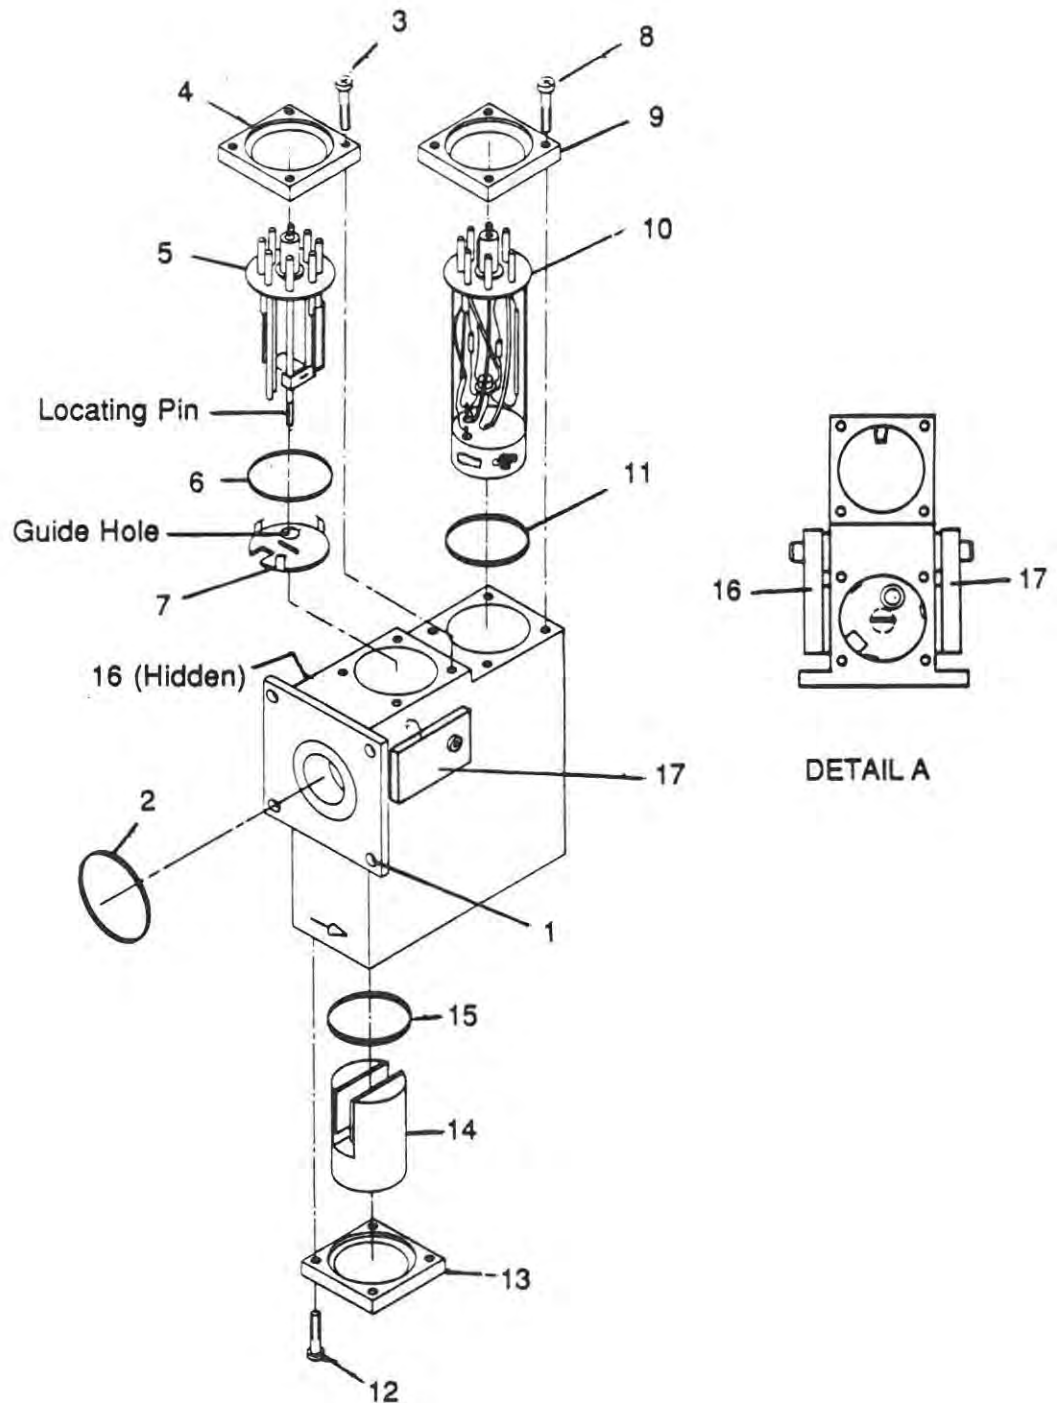

Figure 5-3. Spectrometer Tube Exploded View.
- 3 Place the locating pin of the new ion source approximately in the center of the guide hole as shown in Figure 5-3.
- 5 Remove the Allen screws (1, Figure 5-3) from the spectrometer tube flange.
- 6 Rock the spectrometer tube gently to break its vacuum. Look for and carefully remove the O-ring (2) under the flange. Note the position of the grounding strap.
- 8 Remove the four Phillips head screws (3) that hold the flange cap (4) onto the ion source (5).
- 9 Firmly but gently separate the flange cap (4) from the ion source (5). Note the O-ring (6) on the ion source; remove and discard both the O-ring and the ion source (Varian part no. 82850-302).
### 5-3-7 Assembly of the Spectrometer Tube (Refer to Figure 5-3)
- 1 Install a new ground slit plate (7) carefully. Be sure that the snapprops fit snugly and are facing up. Using a long, thin screwdriver, align the slit at 90° with the side wall of the spectrometer tube. Concentrically align the circular hole in the plate with the smaller guide hole in the bottom of the ion source cavity (see Detail A, Figure 5-3).
- 2 Wipe a new O-ring (6) and the mating surfaces with a clean, lint-free cloth and place the new ion source (5) in its cavity by:
- c tightening the flange cap (4) evenly and firmly with the four Phillips head screws (3).
- 3 Wipe a new O-ring (11) and mating surfaces. Place the preamplifier (10) in its cavity with the O-ring in place. Orient the preamplifier so it is properly keyed. Tighten the flange cap (9) evenly and firmly using the four 9/64 Allen head cap screws (8).
- 4 Carefully place the analyzing magnet assembly in its cavity with a new O-ring. **Be sure to place the magnets so that the arrow on the analyzing magnets is perpendicular to the side of the spectrometer tube body. Check that the arrow is in the same direction as the arrows on the spectrometer tube body and enhancement magnets (see Figure 5-3).** Again, wipe the O-ring and mating surfaces with a clean, lint-free cloth and tighten the flange cap (5) evenly and firmly.
- 5 Wipe a new mounting O-ring (2) and mating surfaces with a clean, lint-free cloth. Hold the spectrometer tube with one hand and install four Allen screws (1). Tighten the screws evenly to insure a proper metal-to-metal seal. Remember to attach the grounding wire.
- 1 While the spectrometer tube is disassembled from the pumping system frame, secure the rear magnet (closest to the pumping system frame). Check that the arrow on the magnet matches the direction of the arrow on the body of the spectrometer tube (see Figure 5-3).